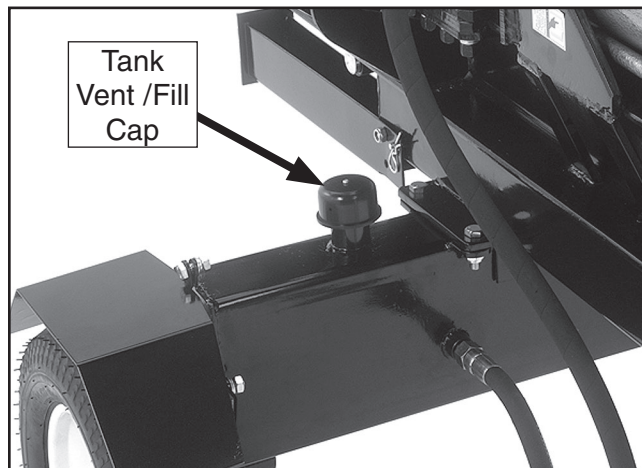

Figure 18. Tank vent cap.
29. Pull the tank vent cap (**Figure 18**) off, fill the hydraulic tank with 2.5 gallons of hydraulic oil, and reinstall the cap.